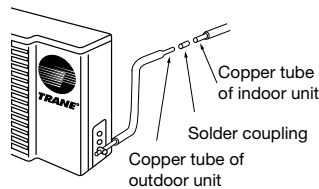

Figure 9
- Use a coupling between the copper tube of indoor unit and the copper tube used for installation (Figure 9).